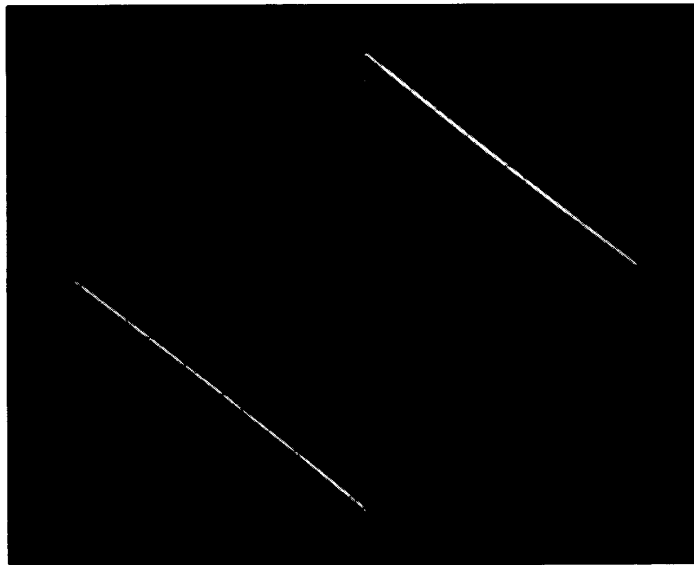

Figure 5-42. 180-Degree Phase Transition
r. Connect rear panel SWEEP OUTPUT to A10TP5 SWP IN. Adjust A9R45 RECT OFS to center vertically the 180-degree phase transition on the CRT, as shown in Figure 5-42.